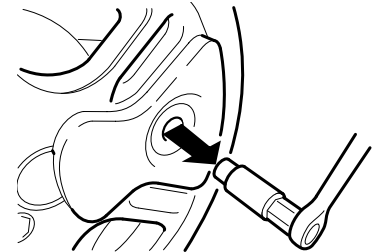

Fig. 7
- Unscrew the 2 screws which are under the soft dock by using the special torx tool (UK version only). (Fig. 7)
- Remove the locking bolt socket key. (Fig 7)